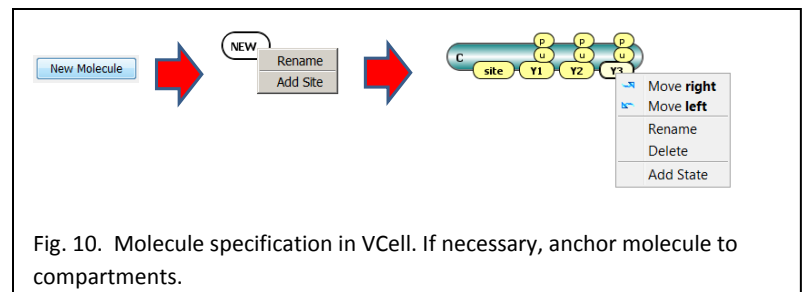

Fig. 10. Molecule specification in VCell. If necessary, anchor molecule to compartments.
1. **Create one or more Molecules** (Fig. 10).